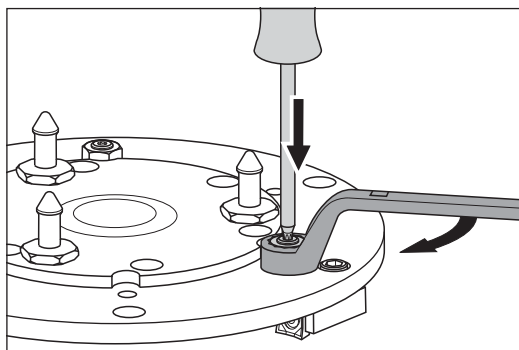

Fig. 42 Tighten the counter nut again.
- 5 Tighten the counter nut again. Use the TORX screwdriver again to keep the adjustment screw in position (fig. 42).